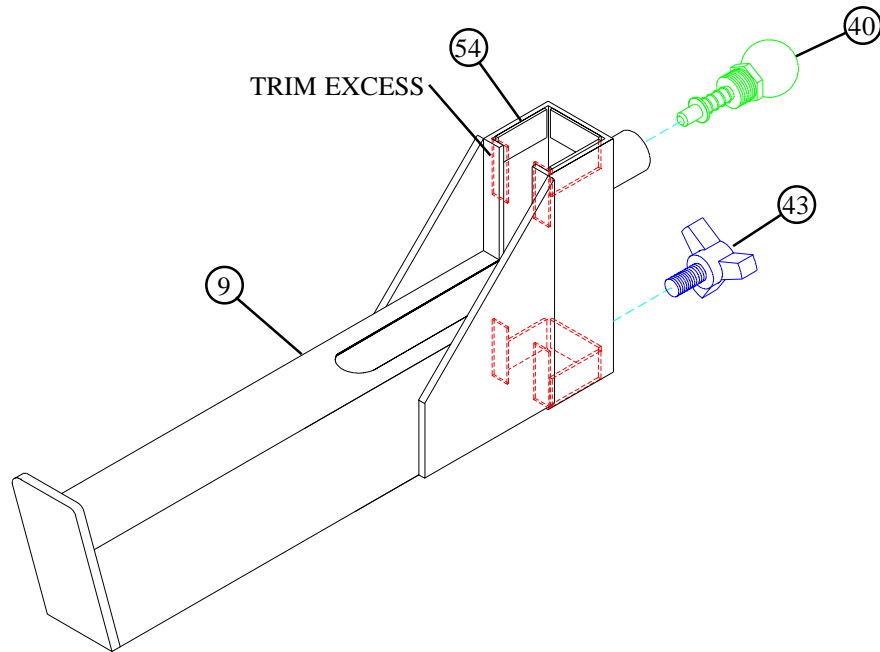

**FIGURE 3**
- **LOOSELY** assemble the UPRIGHTS (5) to the BENT TUBE (4) using four 3/8 X 2-3/4" BOLTS (28) and four 3/8" LOCK-NUTS (36) as shown in FIGURE 3.
- Attach UPRIGHT LABELS (22) to both of the UPRIGHTS (5) as shown in FIGURE 3.